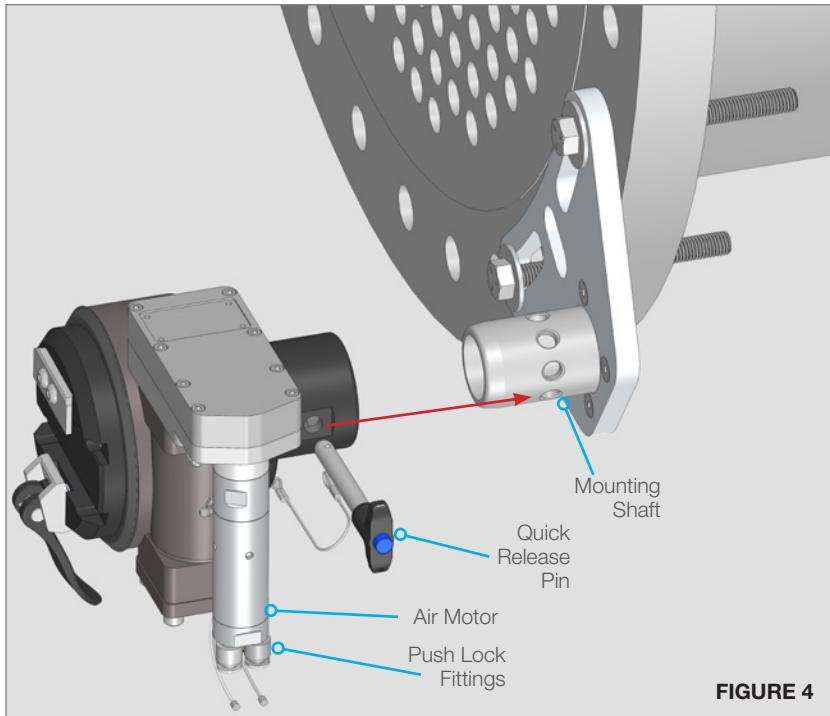

FIGURE 4
4. Pull the Quick Release Pin out of the Rotary Drive. Slip the Rotary Drive over the Mounting Shaft. (**Figure 4**)
5. Rotate the Rotary Drive so that the Air Motor is as far away from the tube face as possible. This allows more room on the Drive Rail for the Linear Drive and Guide Tube/Collet Assembly. Keep in mind the orientation of the Push Lock Fittings for the routing of the umbilical. (**Figure 4**)